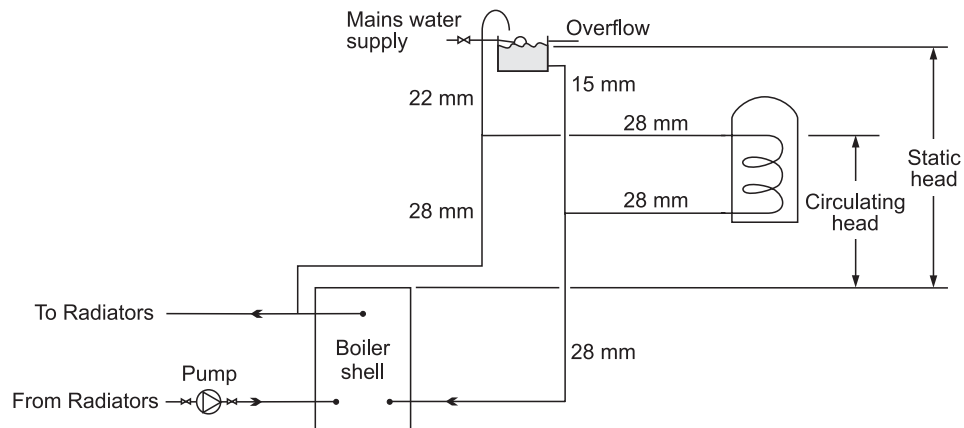

Fig. 9 - 50/70, 70/90 and 90/120 connections shown
3.10.2 Gravity domestic hot water - (See Fig. 9)